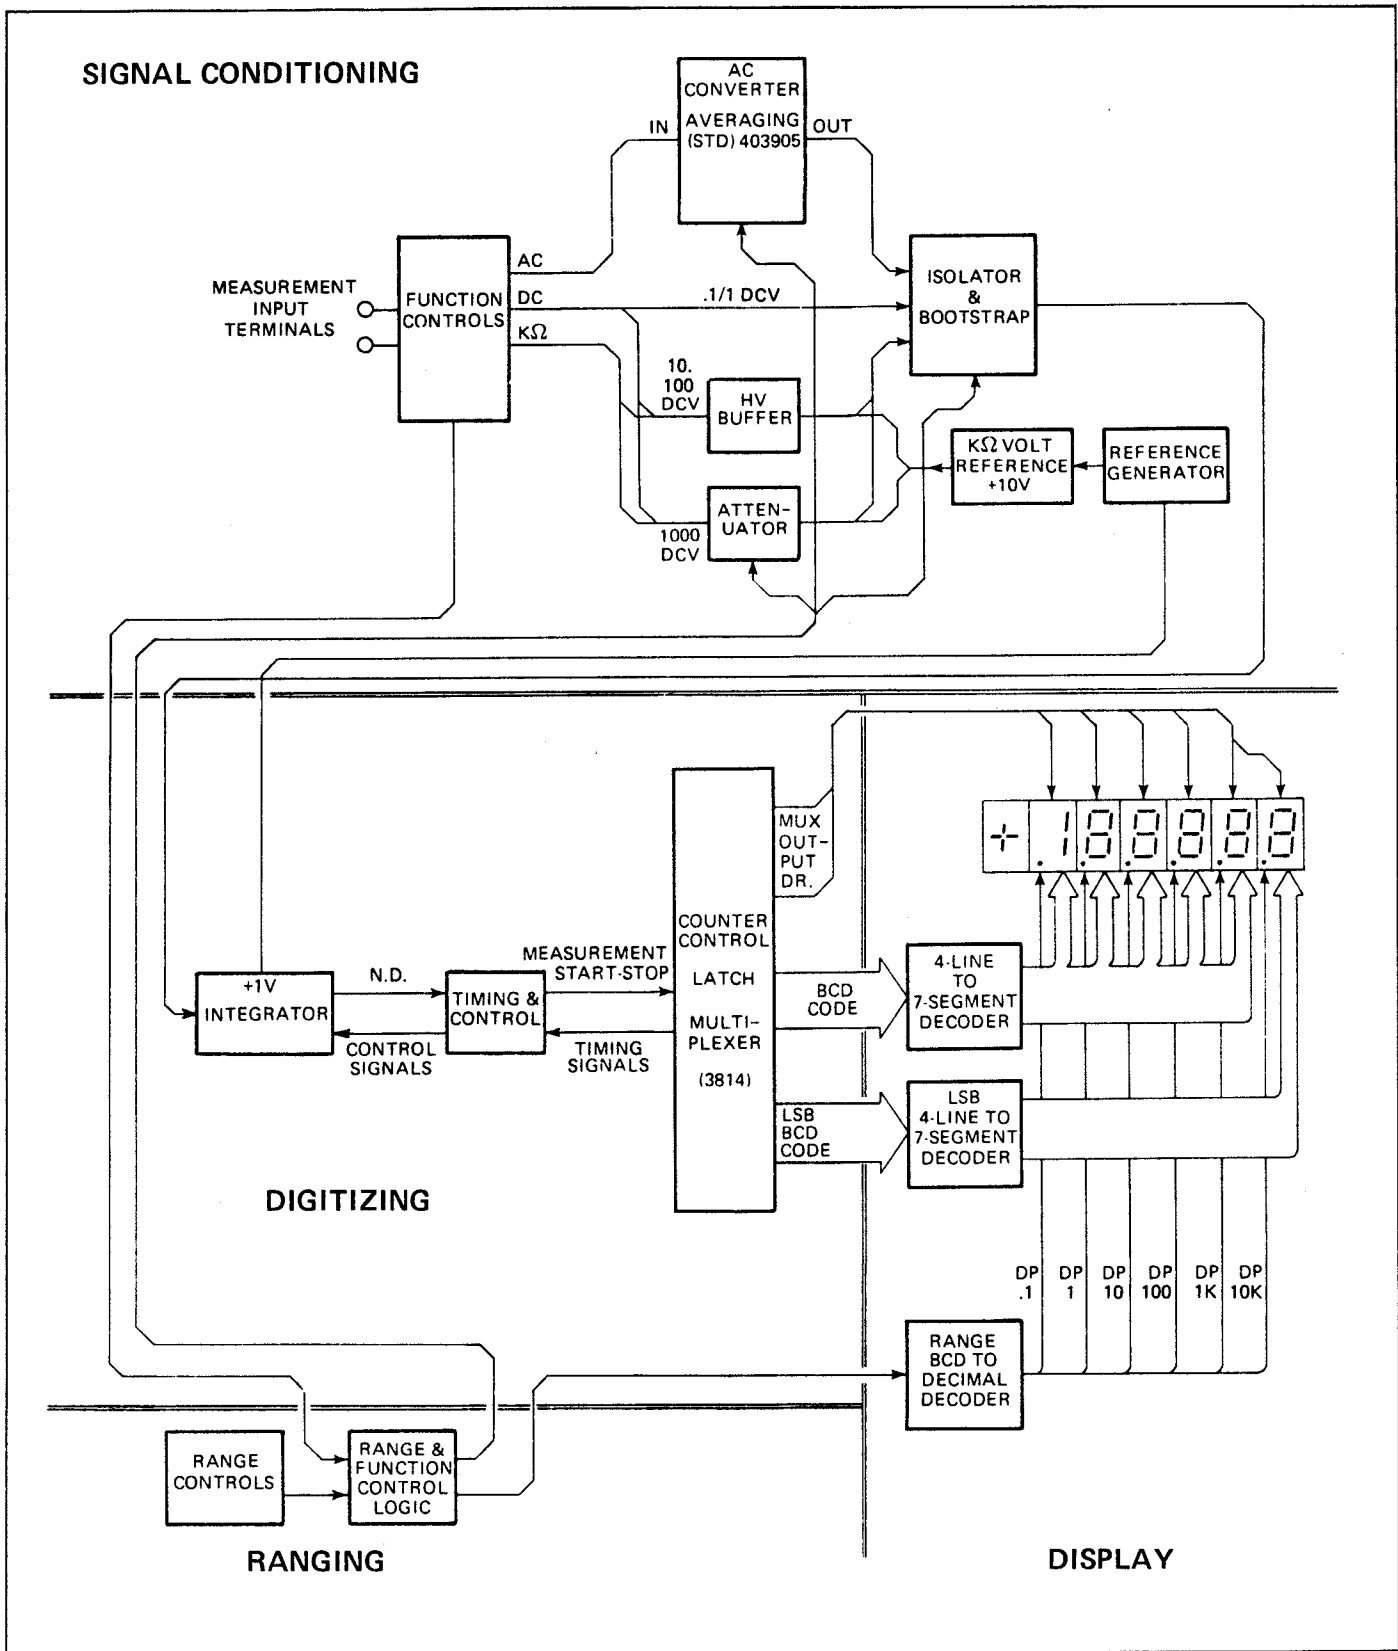

Figure 4.1 - Functional Block Diagram
4.2.1 A functional block diagram of the instrument is presented in figure 4.1. The diagram is divided into four major areas for purposes of discussion; (1) Signal Conditioning, (2) Digitizing, (3) Ranging, and (4) Display. Measurement signals applied to the input terminals are routed to the appropriate signal conditioning device by the function controls. Because the isolator amplifier operates with low voltages, dc measurement signals higher than 2 volts must be scaled down. This is accomplished by the attenuator. The attenuator also changes the source current flow on the ohms ranges. The ac converter contains its own voltage attenuator for the ac voltage ranges above 2 volts.
4.3.1 The following paragraphs present the detailed description of the individual functional circuits of the instrument. The circuit descriptions are arranged in the order that they appear on the overall block diagram, figure 4.1.